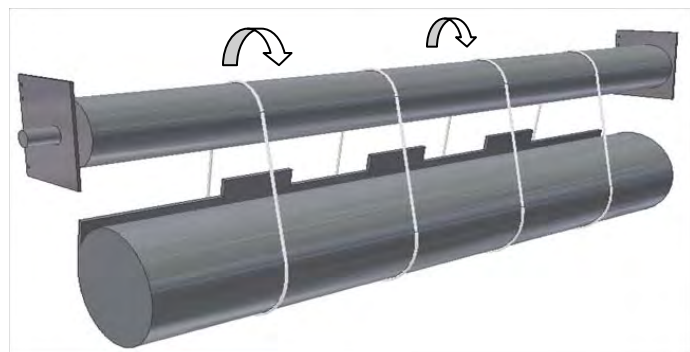

Figure 8.3 - Installing the Curtain
5. Lift the coil until it is just below the shaft. Using appropriately rated ropes or straps, sling the coil from the shaft as shown in **Figure 8.3**. Remove the plastic strapping securing the coil at this point.
Note: SA0005 adjusters require the use of an adjustor bar as a stop as well as a 3/8" thick x 2" wide x 30" to 40" long A36 steel bars to apply spring torque. See **Figure 8.3**.